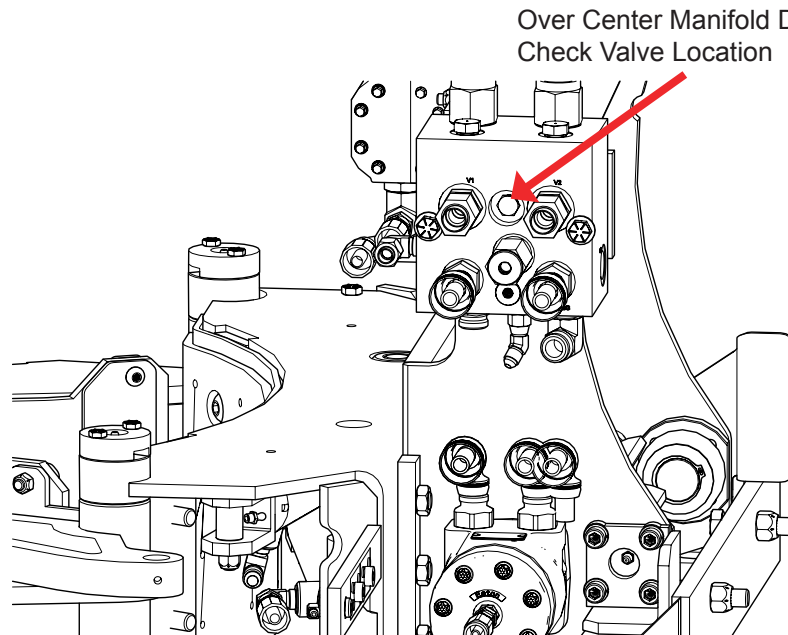

Figure 4
8. Remove and inspect the double check valve from the Over Center Manifold Valve for contaminants (location shown on Figure 4).